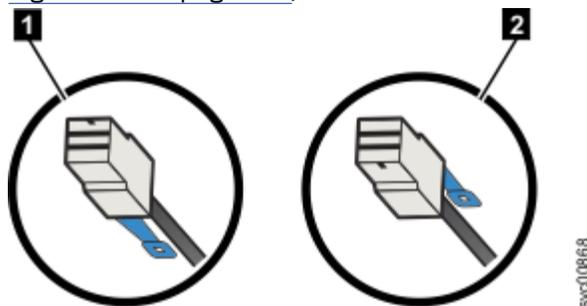

Figure 134. SAS cable connector orientation
- For 2145-24F or 2145-12F expansion enclosures, the blue pull tab must be below the cable (**1** in Figure 134 on page 122).
- For 2145-SV1 or 2145-DH8 nodes and 2145-92F enclosures, the blue pull tab must be above the connector (**2** in Figure 134 on page 122).